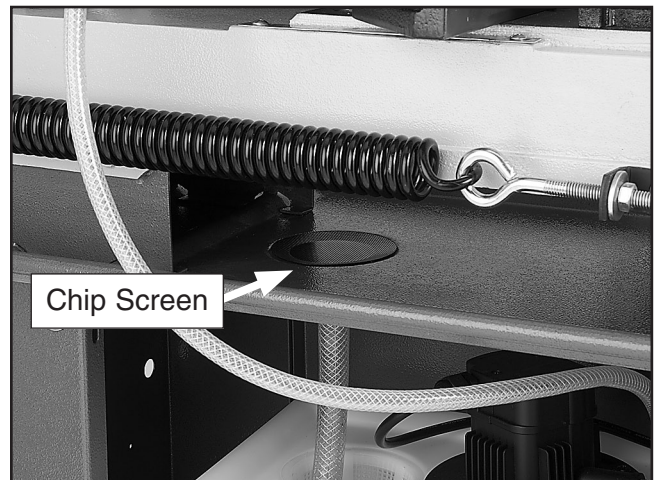

Figure 9. Chip screen installed.
1. Place the chip screen into the opening shown in **Figure 9**.